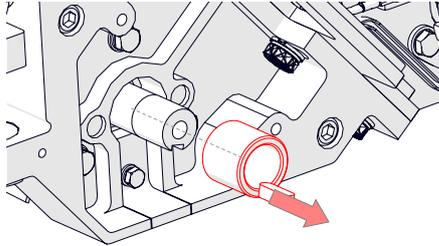

Fig. 16C - Remove the pulley spacer and keyway
4. Remove the pulley spacer and keyway (Fig. 16C).